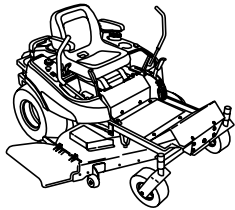

**Figure 36. Fuse Designations and Ratings**
2. Raise the seat. The fuse holders are located on the right side of the rear seat support. See Figure 36.
3. Remove and check the suspected fuse (or fuses). If blown, replace with a fuse with a rating equal to the ratings indicated in Figure 36.